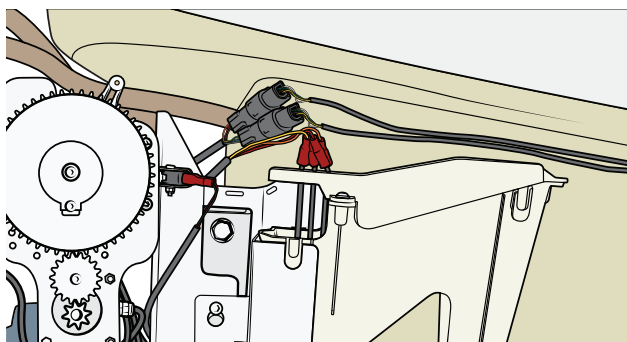

Figure 42
25. On the left side, disconnect the Side panel connector. If equipped with Underwater lights, disconnect the two LED light quick connectors. See Figure 42.